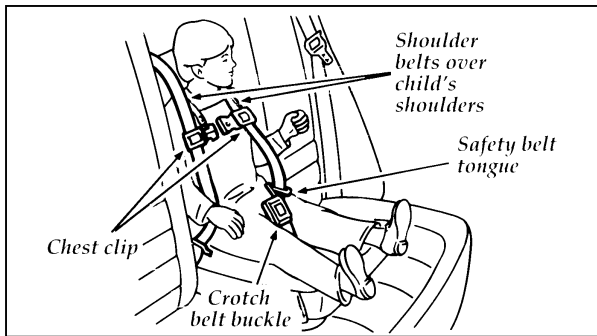
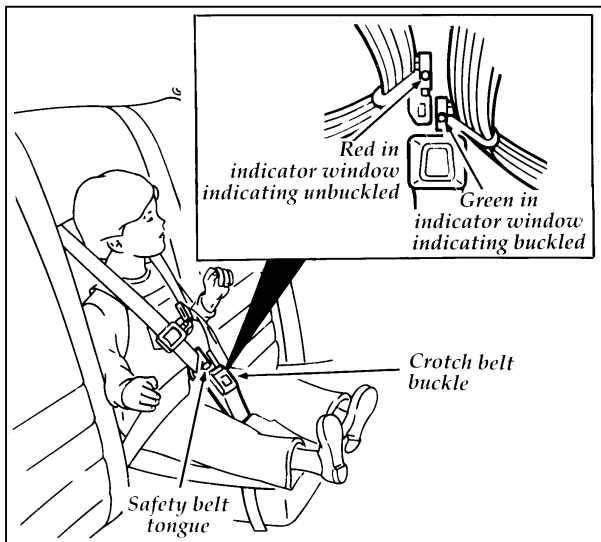

Figure 6: Shoulder safety belt placement on the child
Figure 7: Fastening the crotch safety belt buckle
7. Place the child on the child seat and position the shoulder belts over each shoulder. Refer to Figure 6.
NOTE: Read the following steps carefully to become familiar with the indicator windows located on the crotch safety belt buckle and the chest clip. When either of the tongues or the chest clip is unbuckled, the color red appears in the window. When the tongues or chest clip are securely buckled, the color green appears. See Figures 7 and 9.
8. Insert the left safety belt tongue into the single opening of the crotch safety belt buckle as shown in Figure 6, then insert the right tongue as shown in Figure 7. The indicator window on each tongue must appear green when buckled.
3. Slide the shoulder belts off the child's shoulders and remove the child. Refer back to Figure 6.